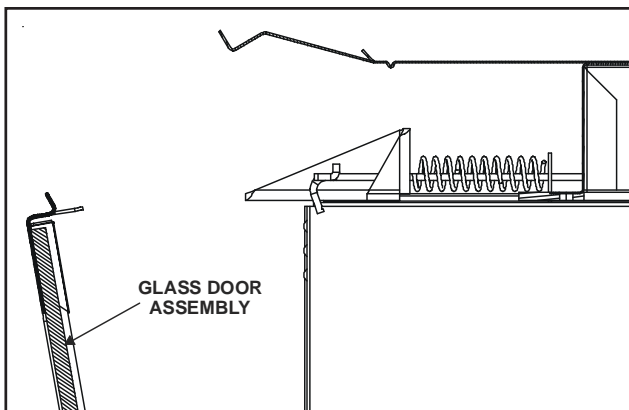

FIGURE 3.2
- Noting carefully how the brackets fit on the glass, release the two spring latches at the top and two at the bottom of the glass door. Carefully lift the glass up and out away from the appliance. See Figure 3.2.